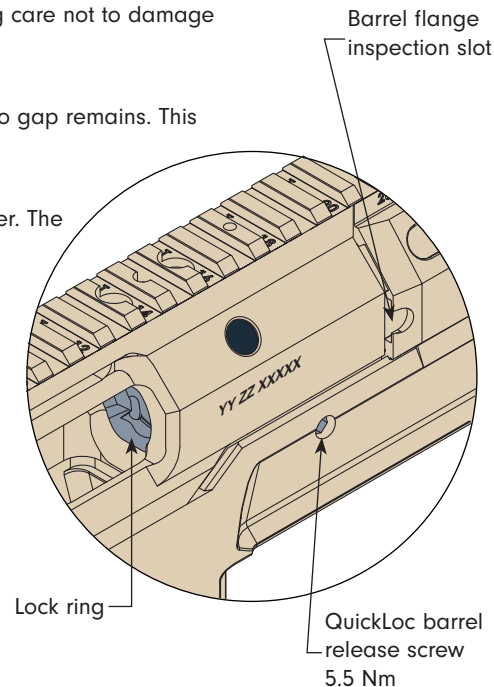

Fig 2-9
- Ensure that the flange on the barrel is touching the front of the action body and that no gap remains. This can be viewed through the inspection slot (see Fig 2-9).